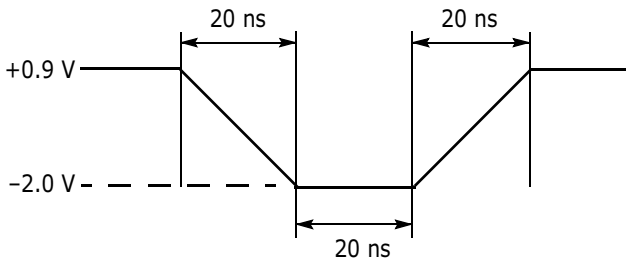
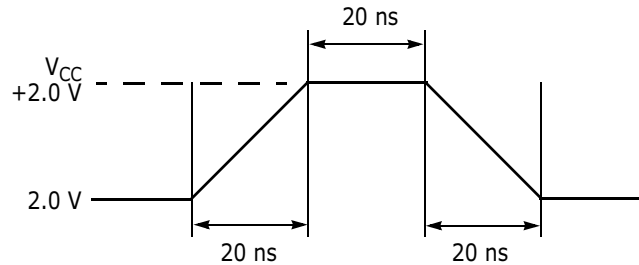

Figure 7. Maximum Negative Overshoot Waveform
Figure 8. Maximum Positive Overshoot Waveform
1. Minimum DC voltage on input or I/Os is -0.5 V. During voltage transitions, input at I/Os may undershoot V_{SS} to -2.0 V for periods of up to 20 ns during voltage transitions inputs might overshoot to $V_{CC} + 0.5$ V for periods up to 20 ns. See Figure 7. Maximum DC voltage on output and I/Os is $V_{CC} + 0.5$ V. During voltage transitions outputs may overshoot to $V_{CC} + 2.0$ V for periods up to 20 ns. See Figure 8.
2. Minimum DC input voltage on V_{PP} is -0.5 V. During voltage transitions, V_{PP} may undershoot V_{SS} to -2.0 V for periods of up to 20 ns. See Figure 7. Maximum DC input voltage on V_{PP} is +9.5 V which may overshoot to +10.5 V for periods up to 20 ns.